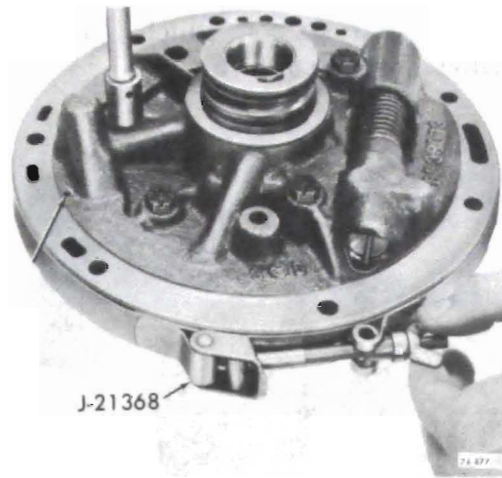

Figure 76-642
11. Place Pump Aligning Strap, J-21368, over pump body and cover, and tighten tool. See Figure 76-642.